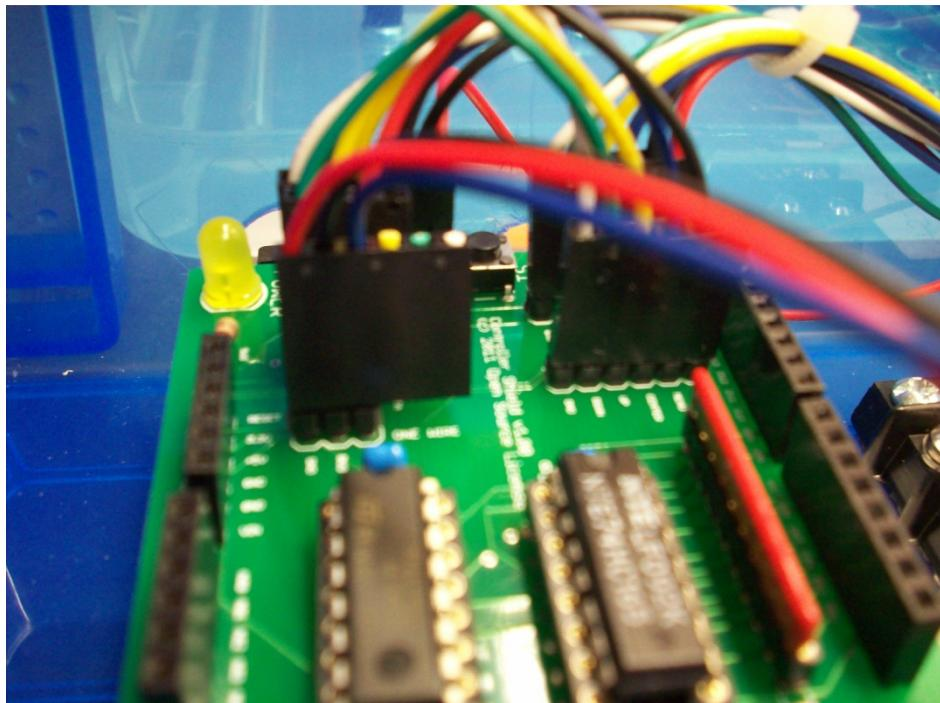

Figure 4-20. One-Wire Bus internal Cable.
- The last connection is JP8, the One-Wire Bus to the three screw terminal block to the right of the Electronic Module. I took another of the 6 conductor interconnect cables and cut off one end. I then cut off the white, green and yellow wires from the other end of the cable, leaving a 6 wire connector with only three wires on it, as shown in figure 4-20, below. Make sure to connect this cable connector to the three pins of JP8 as shown in figure 4-20, i.e. with the three remaining wires carrying these three signals. Connect the three wires to the rightmost column of screws on the three position terminal block as follows: